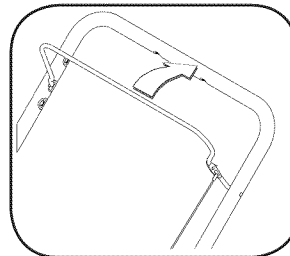

Figure 6
- Engage the auger by squeezing the auger control handle against the upper handle. See Figure 6.